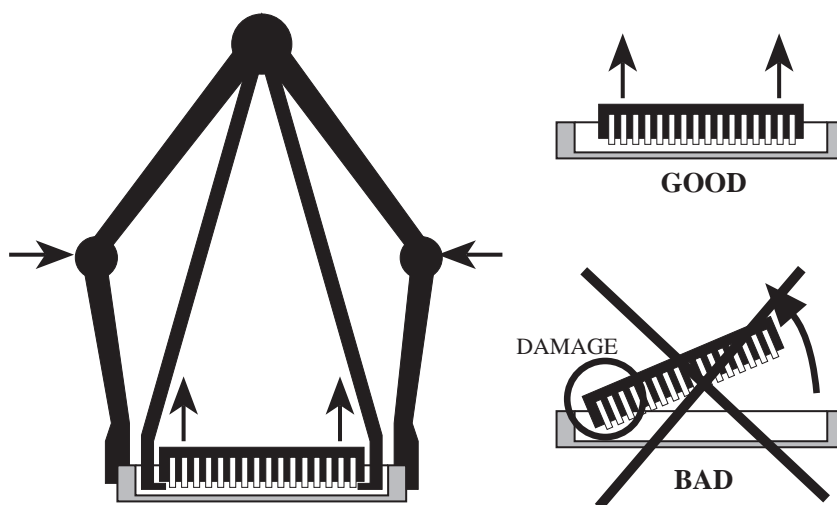

Figure 37: Correct and wrong FLASH extraction operation. On the left, the FLASH extraction tool.
- Use a specific extraction tool to push out the EPROM, very carefully, and in a parallel way as indicated in figure 37.